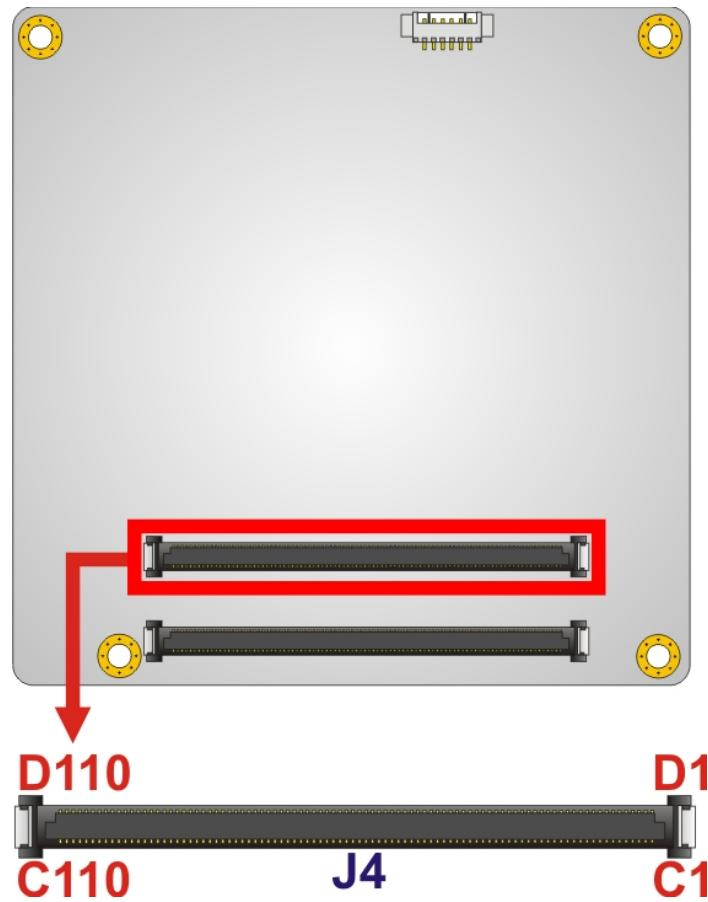

Figure 3-3: COM Express Connector CD Location
**CN Location:** See **Figure 3-3**